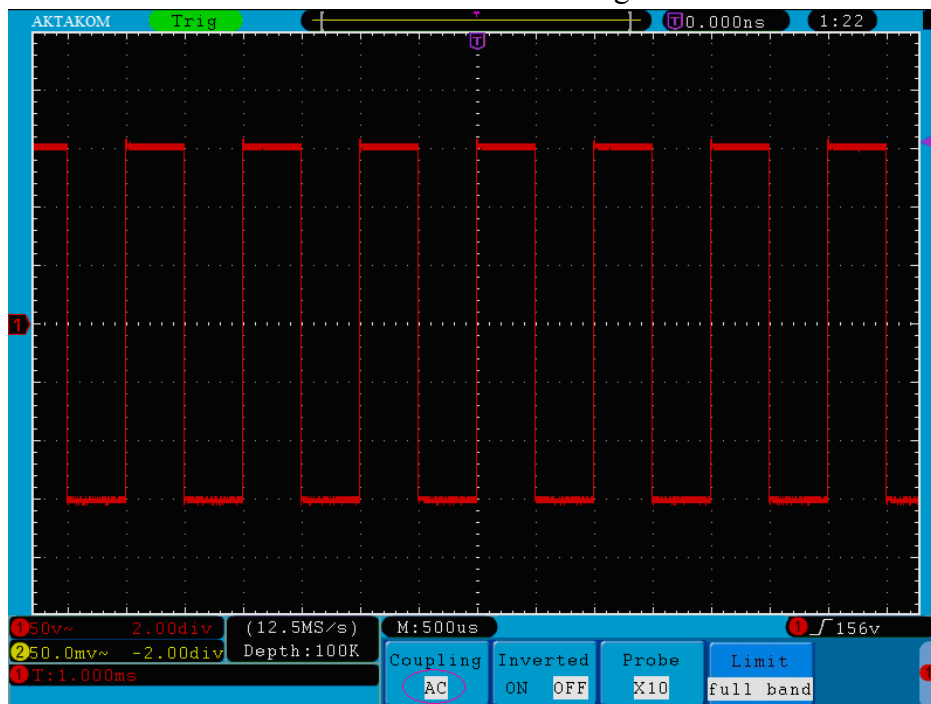

Fig. 5-2 AC Coupling Oscillogram
- (1) Press the **CH1 MENU** button and call out the CH1 SETUP menu.
- (2) Press the **H1** button, the Coupling menu will display at the screen.
- (3) Press the **F1** button again to select the Coupling item as “**DC**”. By setting the channel coupling as DC mode, both DC and AC components of the signal will be passed.
- (4) Then, press **F2** button to select the Coupling item as “**AC**”. By setting the channel coupling as AC mode, the direct current component of the signal will be blocked. The waveforms are shown as Fig.5-2.